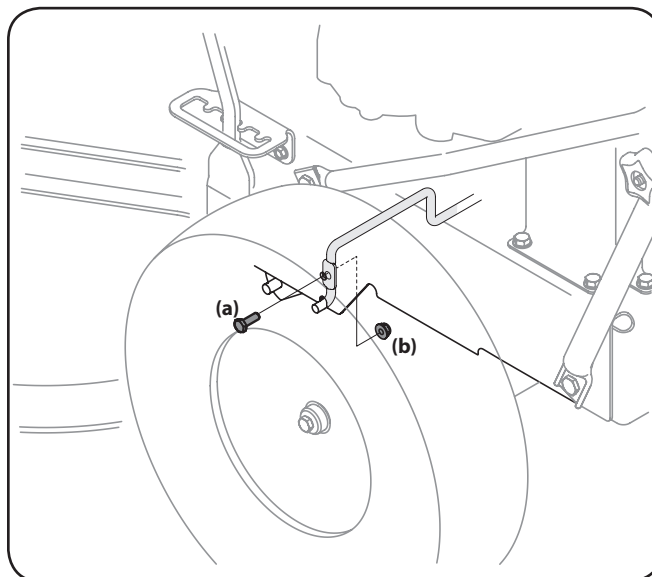

Figure 7-2
5. Remove the screw (a) and flange nut (b) which secures the belt keeper rod to the left side of the mower's frame. See Figure 7-2.
3. Remove the belt keeper as instructed in Step 6 of Cutting Deck Removal on page 22. See Figure 7-2.